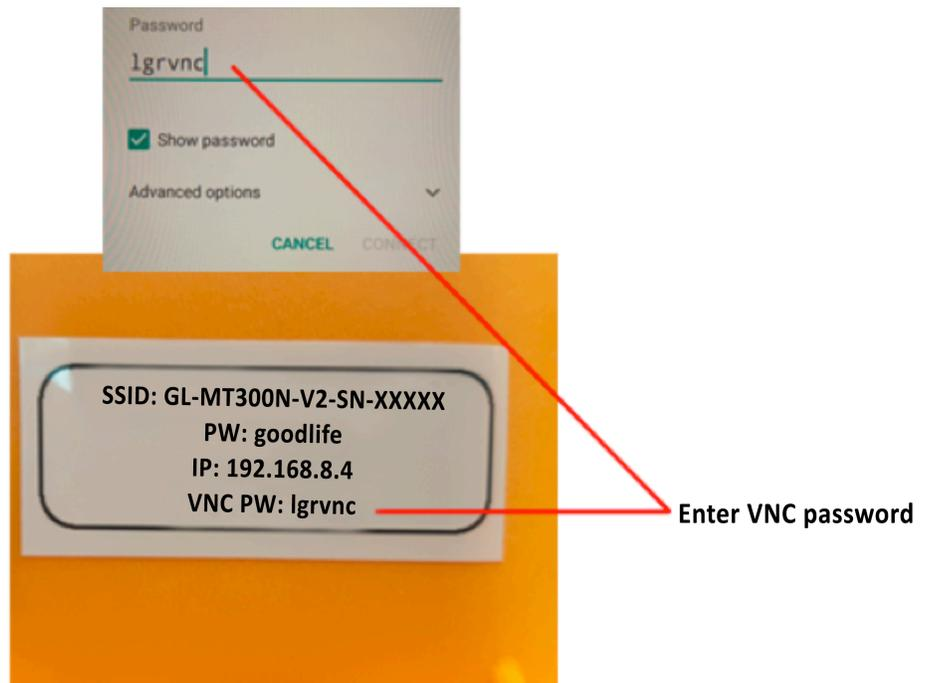

Figure 17: VNC Network Password Screen
7. Enter the password for the VNC Viewer to the analyzer: **lgrvnc** (see Figure 17).